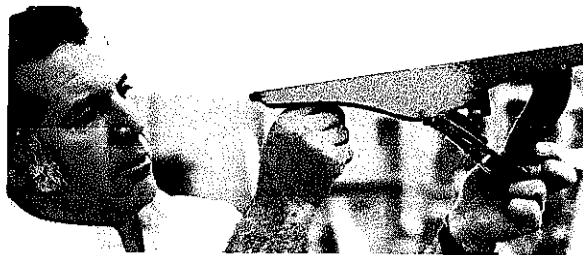

Fig. 8-20 Sighting for lateral adjustment.
2. Move the lateral adjusting lever to the right or to the left, figure 8-20, until the cutting edge of the plane iron projects uniformly across the bottom of the plane.